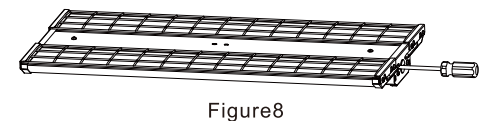

Figure8
- Step1. Mount the wire guard on the fixture with screws (Figure 8)